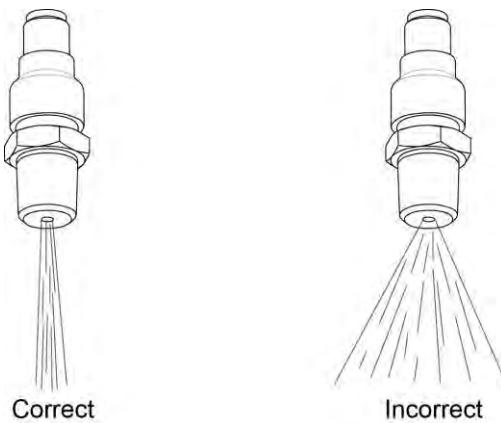

Figure 8
- I. Examine the fuel flow from each injection nozzle to make sure the fuel stream is not scattered (which is an indication of blockage in the injection nozzle) identified as "Incorrect" in Figure 8.